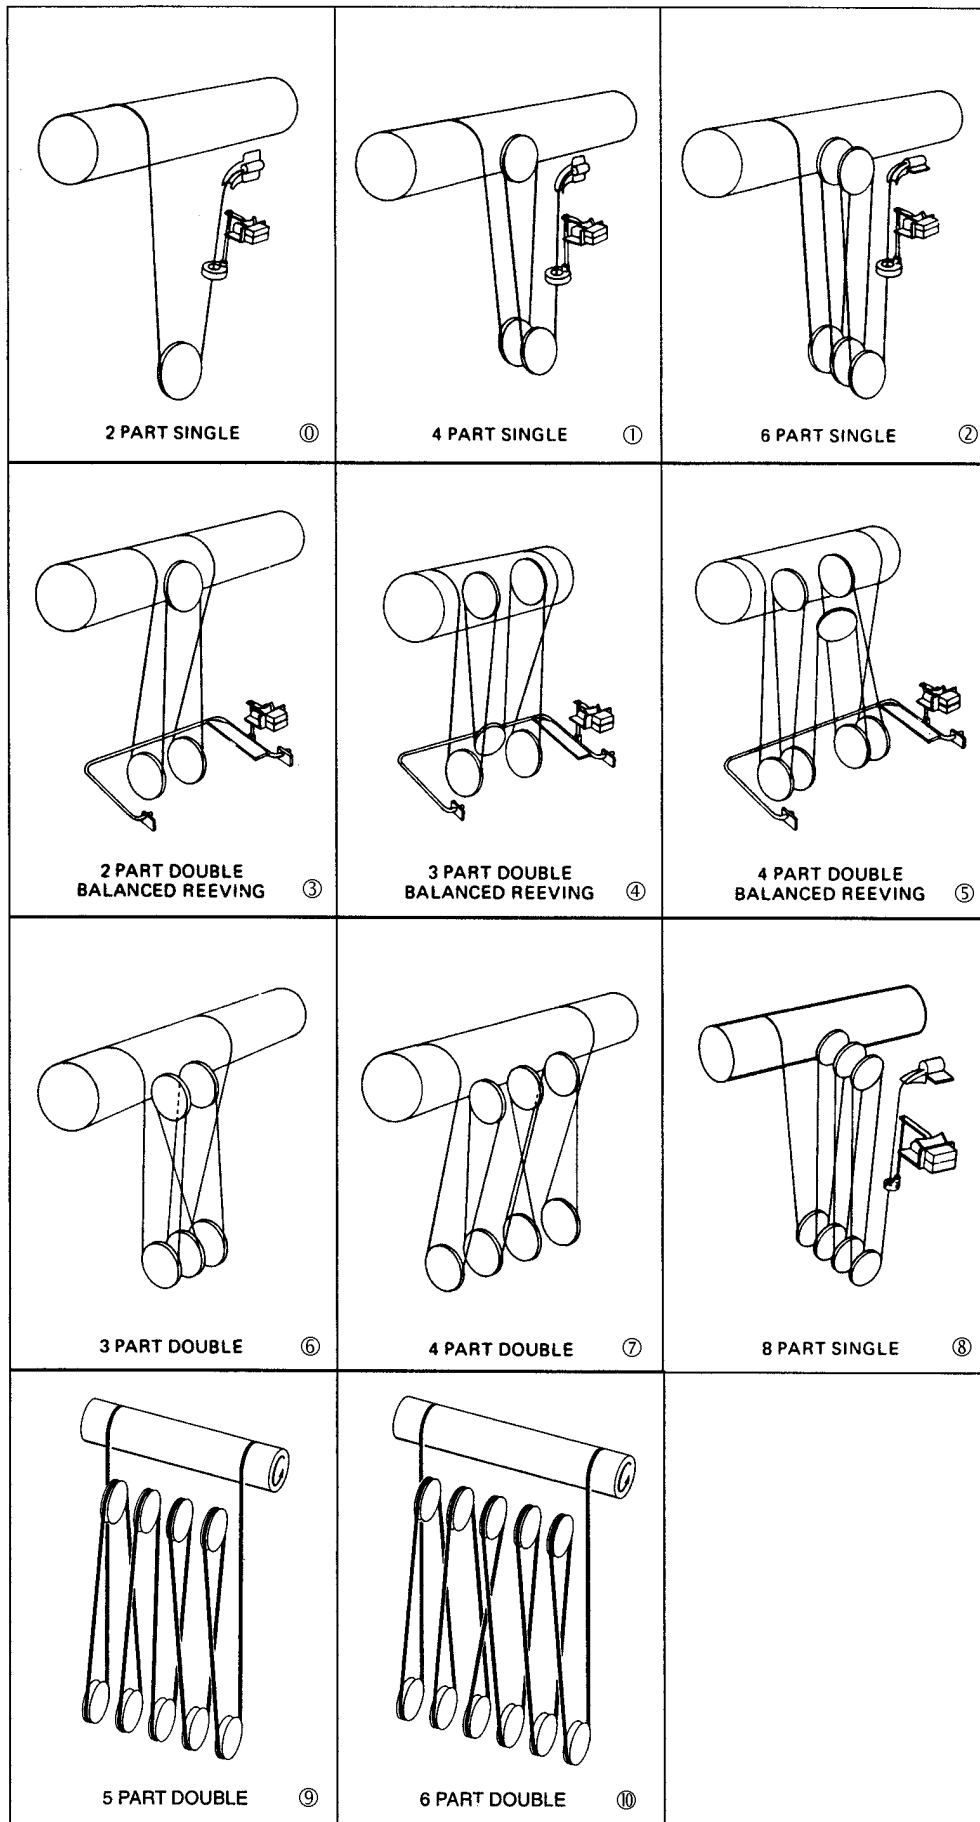

Figure 5-8. Reeving Diagrams
Before removing the old rope, refer to reeving diagrams, Figure 5-8. Face the rope drum on your hoist from the side which the rope comes off drum. To assist with rereeving your hoist, select the reeving diagram for your hoist. Note the description (such as 3 part double reeved, Figure 5-8, ④) and refer to paragraph below with the same description which describes rereeving procedure.
- (1) Lower the bottom block to a scaffold located 6 to 7 feet below hoist to relieve tension on wire rope. (Bottom block may be lowered to floor if desired; however, to handle less weight and for ease of rereeving adequate scaffold below the hoist is recommended.)
- (2) Remove bottom block sheave guard.
- (3) Remove key plates from both sides of sheave pin and slide sheave pin from bottom block.
- (4) Lift out sheaves from the top of the bottom block and remove wire rope.
- (5) Remove key plates or snap rings from upper block sheave(s) and slide out upper block sheave pins, releasing upper block sheaves. Remove wire rope from sheaves.
- (6) Make certain all personnel are clear of hoist and operate hoist "DOWN" to completely unwind all wire rope from drum. Stop hoist so drum anchor slot(s) is accessible. Remove live rope end socket(s) from drum.
- (7) TURN OFF POWER TO HOIST.
- (8) Open electrical compartment cover on single reeved hoists to remove dead end socket.
- (1) Pull far end of rope toward end of rope nearest hoist, until both ends are even and a loop is formed. Place fittings on both ends of rope in anchor slots on rope drum. Be sure end fittings are properly seated.
- (2) With all personnel clear of hoist - TURN ON POWER.
- (3) Operate hoist "UP;" guiding rope into grooves at both ends of drum, until the distance from the drum to the loop is:
- (4) Proceed with reeving as described in appropriate paragraph below and the reeving diagram for your hoist.
See Figure 5-8, ⑩ for diagram.
- (1) Thread the remaining cable end through limit switch weight, then pass it over partial sheave, inside hoist, and insert in anchor fitting at hoist frame. Be certain power is off before opening electrical compartment cover for access to anchor fitting. Properly seat rope end fitting in socket and replace cotter pin in end of socket.
- (2) Grasp loop, formed after installing end anchor, and place bottom block sheave in loop. Lower sheave into bottom block and insert sheave pin. Replace key plates and bolts holding sheave pin in place.
- (3) Replace sheave guard. Make certain rope is not twisted. Should the two parts of rope tend to wind around each other, remove cable from anchor slot and untwist cable. Reattach the cable anchor.
- (4) Lubricate cable per Paragraph 4-3.
See Figure 5-8, ⑪ for diagram.
See Figure 5-8, ② for diagram.
- (1) Grasp cable at a point one-third (approx. 14'0") the distance hanging below the rope drum and form a loop. Place one upper sheave in this loop. Slide upper sheave with cable into sheave pocket; partially insert sheave pin to hold sheave in place.
- (2) Repeat (1) above and install second upper sheave with rope. Insert sheave pin and install key plates and bolts to secure sheave pin.
- (3) Thread rope end socket through limit switch weight; then, pass it over partial sheave, inside hoist, and insert in anchor fitting at hoist frame. Be certain power is off before opening electrical compartment cover for access to anchor fitting. With end fitting properly seated in anchor, replace cotter pin in end of socket. Three loops have now been formed for bottom block sheaves.
- (4) Place sheave in each loop. Install one sheave with cable in bottom block; partially insert sheave pin to hold sheave in place. Note: Be certain to install spacer washers between sheaves, when shown on parts illustration.
- (5) Repeat step 4 for remaining bottom block sheaves. Install sheave pin through sheaves. Replace key plates and bolts securing sheave pin.
- (6) Replace sheave guard.
- (7) Lubricate cable per Paragraph 4-3.
See Figure 5-8, ③ for diagram.
- (1) Form loops in the two ropes coming from rope drum. Place these loops into bottom block pockets and slide pipe or rod through sheave pin holes. Note position of ropes passing limit stop bar.
- (2) Partially insert upper block sheave pin in opening and install one spacer washer. Raise remaining rope up to hoist, form a loop and place upper sheave in this loop.